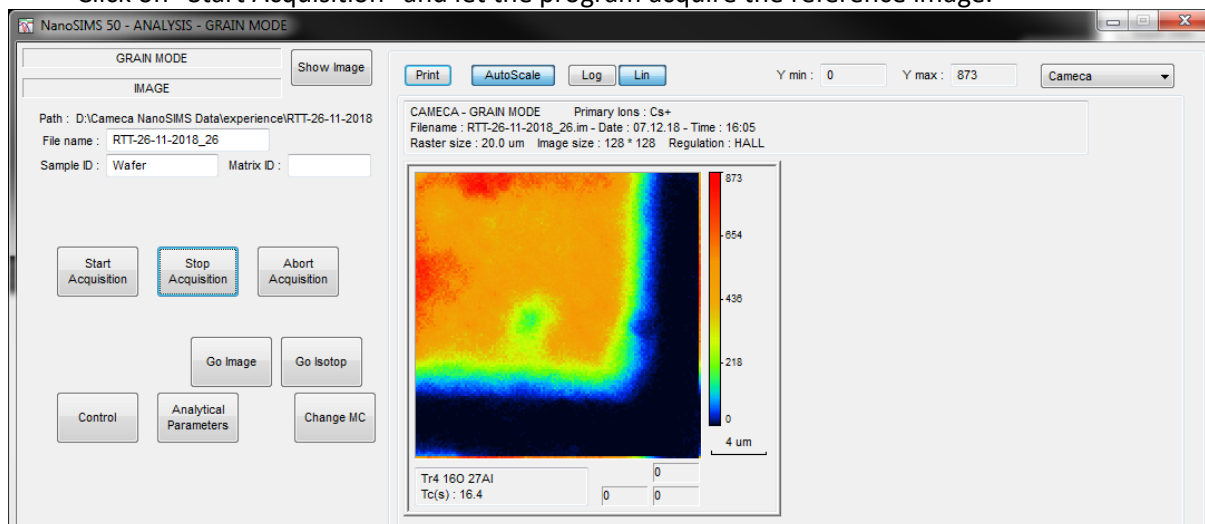
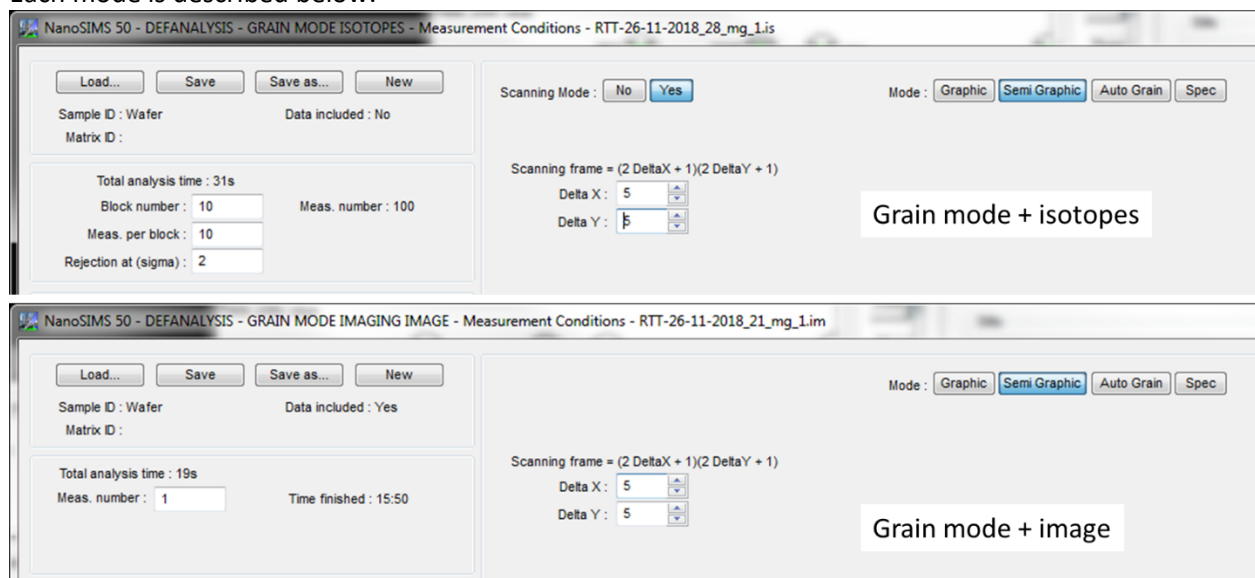

Figure 364: Analysis window in Grain mode.
Figure 365: Scanning mode options in the Def Analysis window in Grain mode.
- Click on “Go Isotopes” or “Go Image” (to select the output file type), depending on the type of analysis you wish to acquire (Figure 364). You are then redirected to a specific Def Analysis window corresponding to your choice (Figure 365). Define analysis parameters like for a regular Isotope or Image analysis. In “isotopes” mode, do not forget to define the isotope ratios.